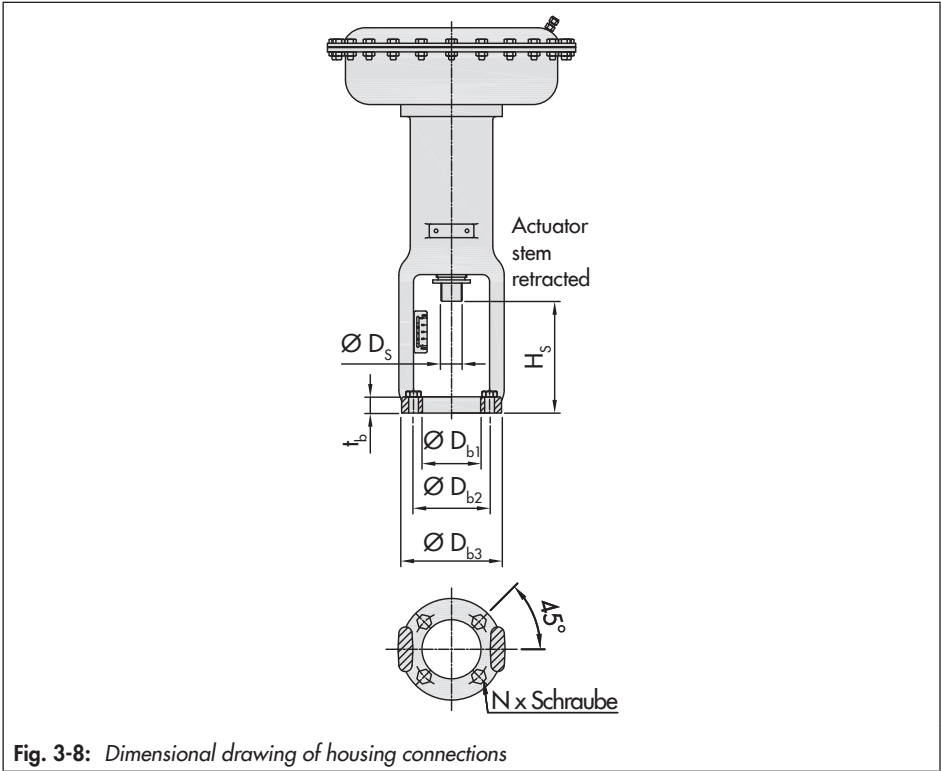

Fig. 3-8: Dimensional drawing of housing connections
**Table 3-4:** See Fig. 3-6 and Fig. 3-8 for dimensions and weights of Type 3276-D
**Table 3-5:** See Fig. 3-7 and Fig. 3-8 for dimensions and weights of Type 3276-R